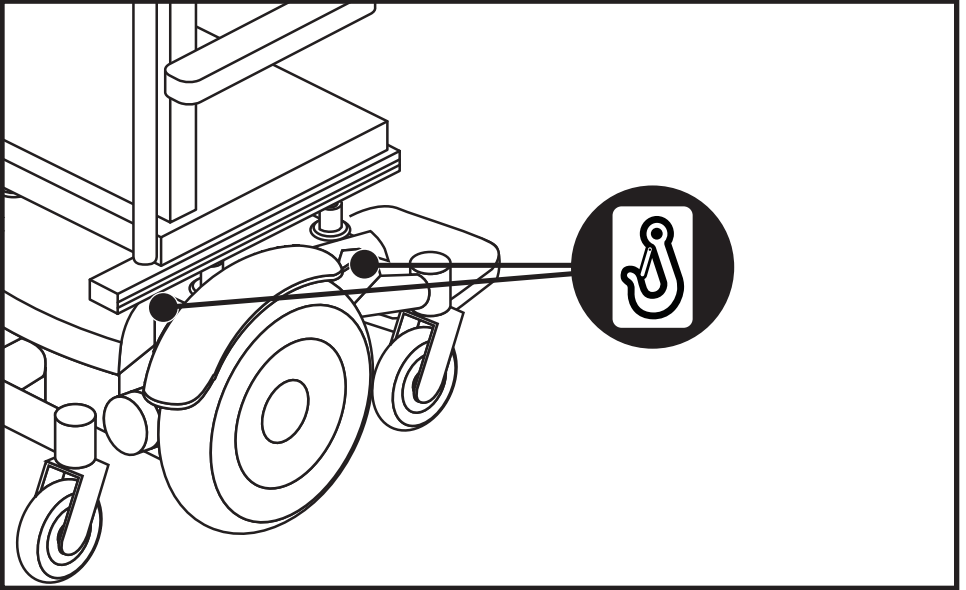

Figure 3. 4-Point Securement Points on a Mid-wheel Drive Power Chair (Right Side Shown)
- Attach the four, six, or eight tie-down straps only to designated, labeled transit securement points indicated by anchor symbols on the power chair. **See figures 3 through 10.** Tighten the straps to sufficiently remove all slack.
- The Pride Transit Securement Package includes WTORS belt restraint anchor points in conformance with ISO 7176-19. **See figures 3 through 10** for the location of the anchor points on each model.